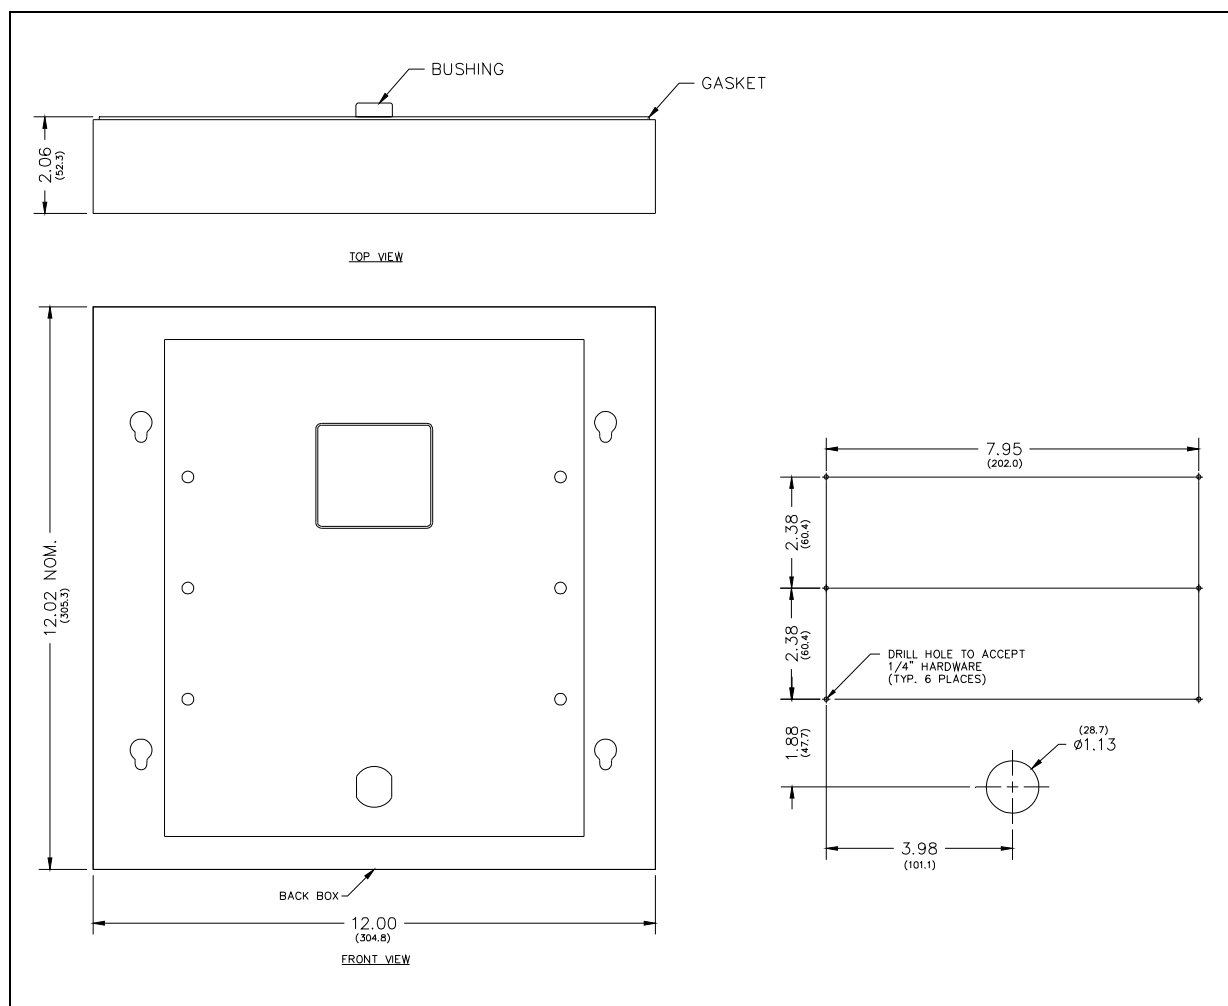

Figure 8. Mounting the Model 295-001W
3. Use the back box as a template to mark and drill the mounting holes on the mounting surface (see Figure 8).
5. Snap the bushing closed and insert it into the double D hole in the back of the back box (see Figure 3 and Figure 8).